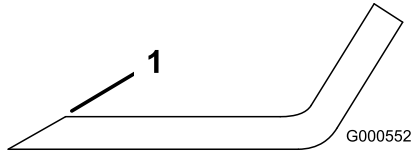

Figure 101
1. Use a file to sharpen the cutting edge at both ends of the blade (Figure 101).
**Note:** If the blade is not balanced, file some metal off the end of the sail area only (Figure 101).